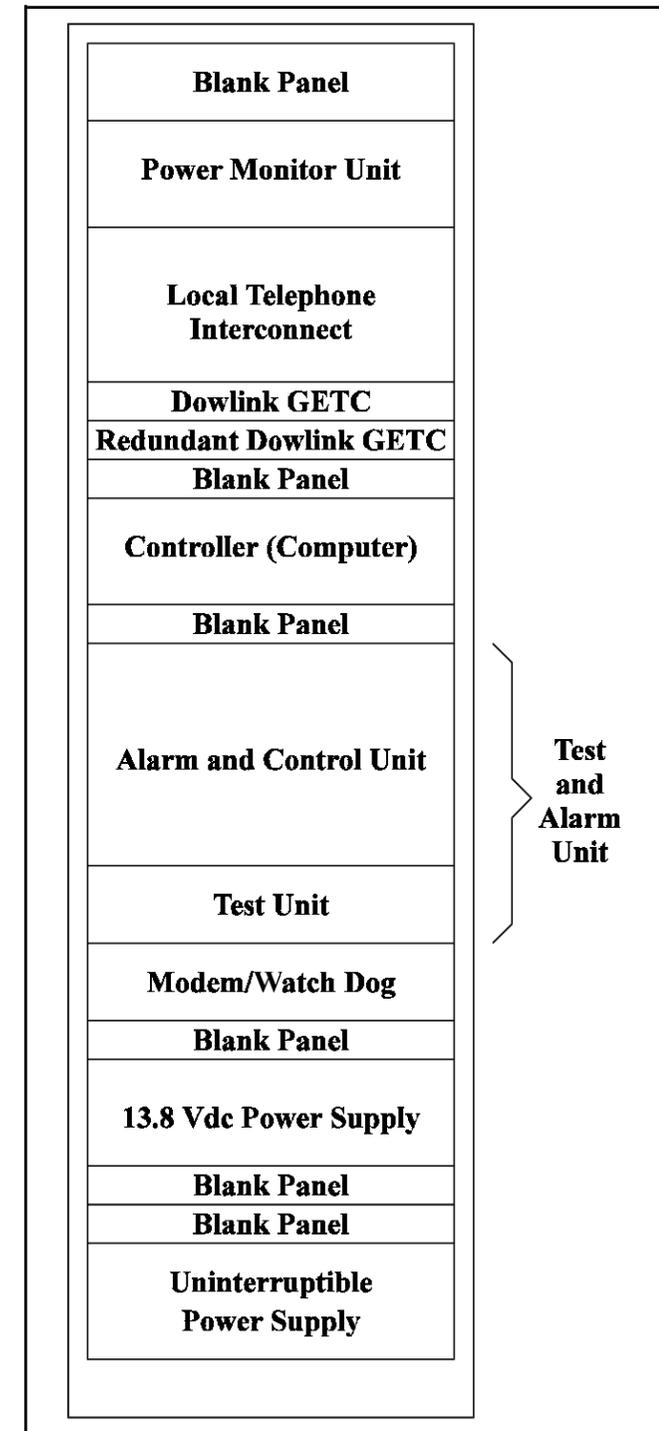

Figure 2 - Typical TAU Rack Installation
Most of the modules making up the TAU are located in a 19-inch equipment rack. A typical rack installation is shown in Figure 2. Mounted on the front panel of the TAU is the Display Assembly, consisting of a polycarbonate display panel, metal panel frame, Display Board, and associated hardware. The front panel is swung down to gain access to the Control Unit
1. Mount the TAU in the cabinet. Figure 2 shows the standard location. (Use of standard locations for equipment assures that supplied cables will reach their desired connections.)